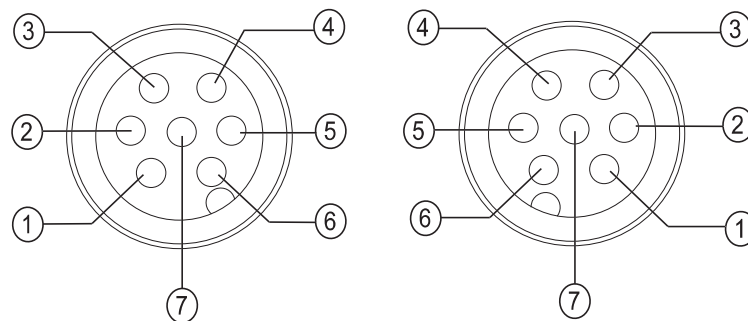

Figure 3-31: Relay Switches Connector Pin Diagram
**Note:** Female connector (see Figure 3-31) represents the view of the connector from the back of the printer.